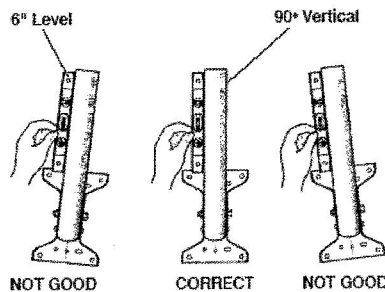

FIGURE 4
STEP 2. Attach the mount foot to wall (roof, mast, etc.) making sure that the mount foot is vertical (90°). See Figure 4. Attach ground wire to mount foot (wrap wire between bolt/lag screw and mount foot).